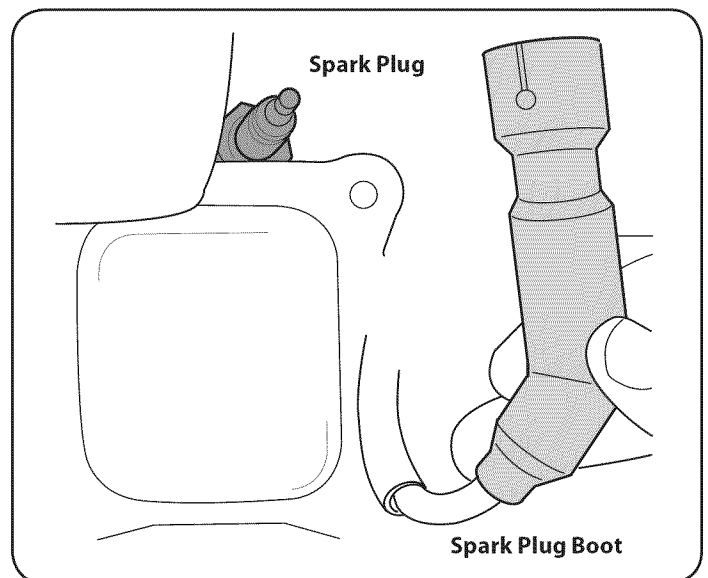

Figure 14
- Remove the spark plug boot and use a spark plug wrench to remove the plug. See Figure 14.